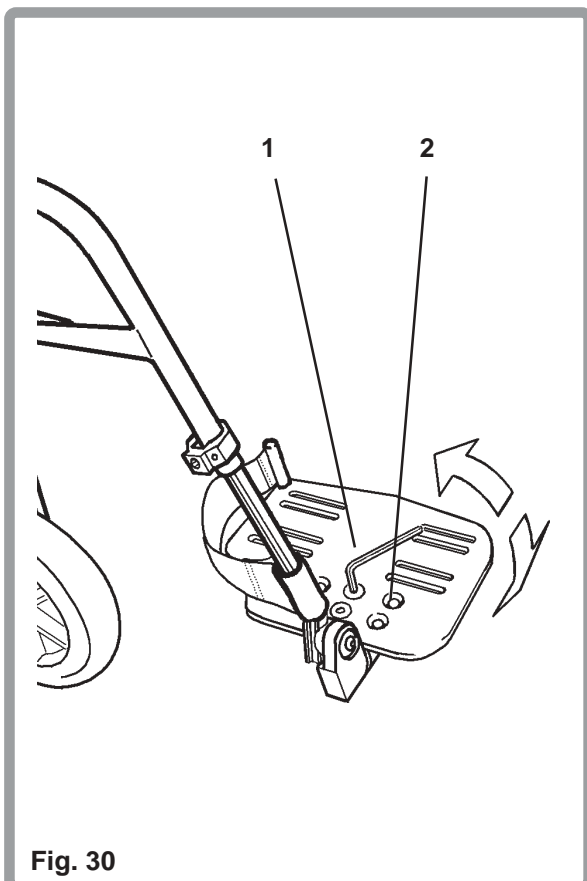

Fig. 30
To adjust the footplate angle (Fig. 30), loosen the screws (1) with a 4mm Allen key sufficiently to allow the footplate to be rotated to the required angle. When at the required angle tighten the Allen screws using a torque spanner to 8-10Nm torque setting.
To adjust the depth of the footplate (Fig. 30), remove the two screws (1) and relocate the footplate to the desired depth position through the choice of a different set of holes (2). Refit the screws and tighten to the settings given above.